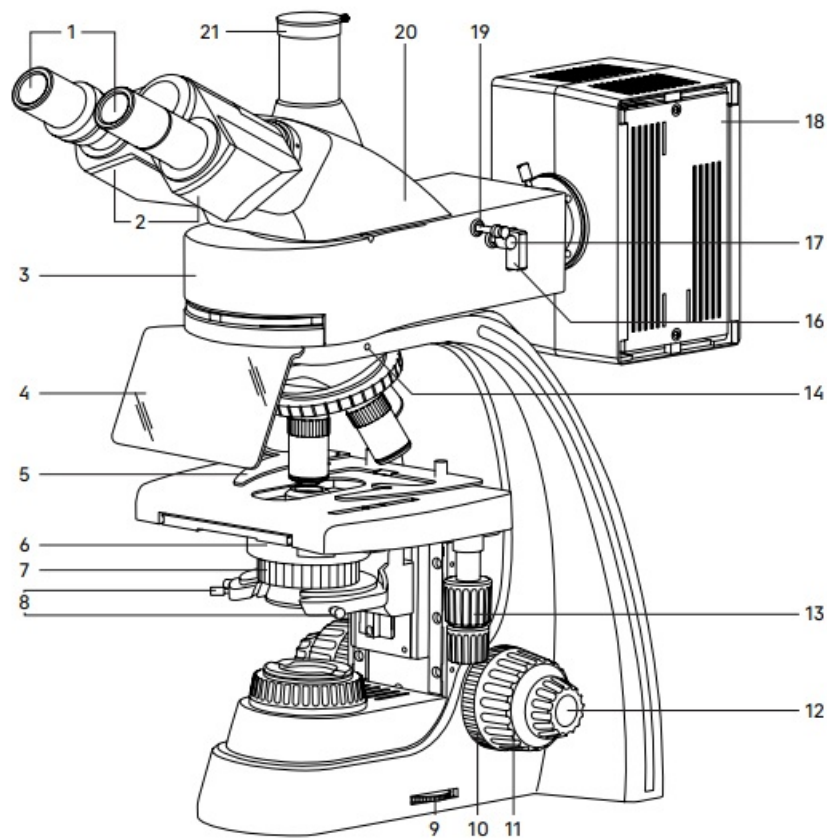
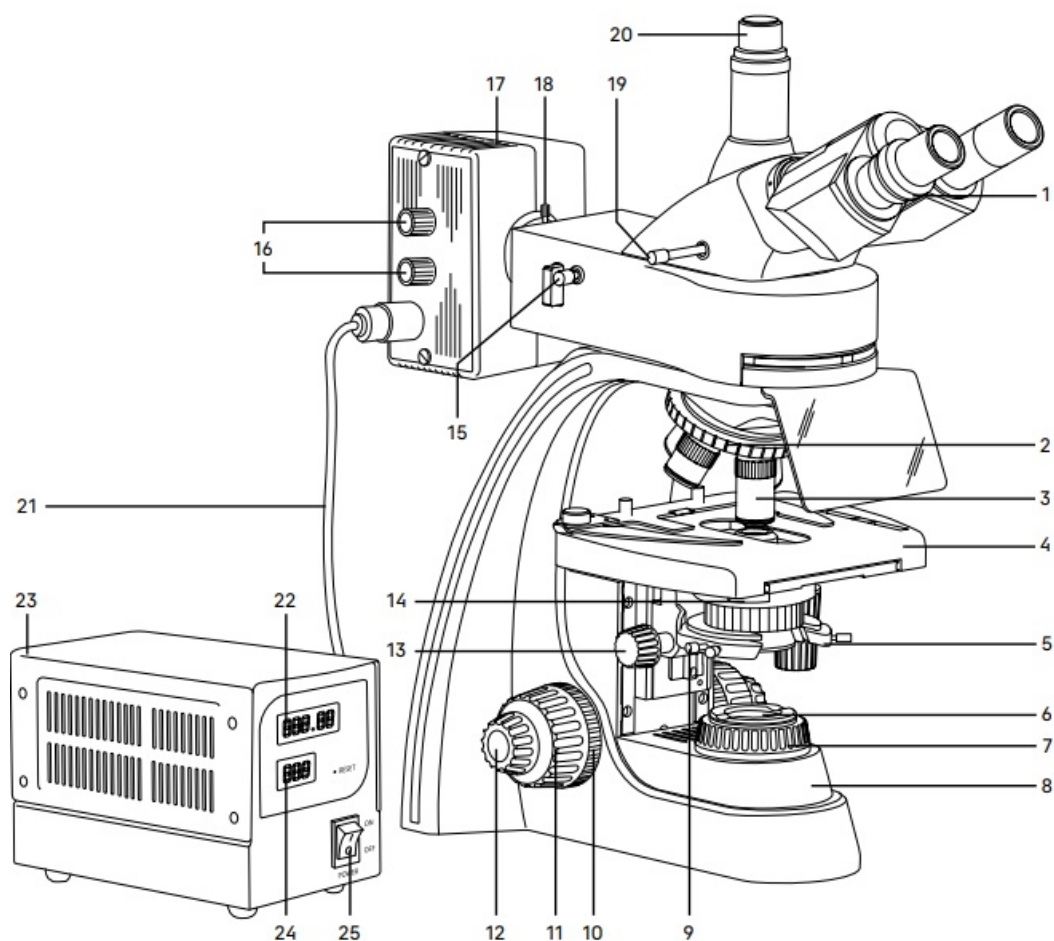

Fig. 1. MAGUS Lum 400 Fluorescence Microscope. View from the right
Fig. 2. MAGUS Lum 400 Fluorescence Microscope. View from the left
- The general view of the microscope is given in Fig. 1 and 2.
The stand 8 (Fig.2) is a one-piece structure with the base. The base has a Y-shaped stable ergonomic design.
- revolving nosepiece 2 (Fig. 2) with objectives 3 (Fig. 2)
- stage 4 (Fig. 2)
- condenser mount 5 (Fig. 2)
- collector with field diaphragm 6 (Fig. 2).
- The ring 9 (Fig. 1) is used to adjust the supply voltage of the transmitted light source.
- Focusing on the specimen is achieved by adjusting the height of the stage 4 (Fig. 2). Coarse focusing is performed by rotating the coaxial knobs 11 (Fig. 1, 2) on both sides of the microscope stand.
- Fine focusing is performed by rotating the knobs 12 (Fig. 1, 2) on both sides of the microscope stand.
- The coarse focusing tension adjustment is performed by the ring 10 (Fig. 1) between the stand and the coarse focusing knob on the right side. The ring adjusts the coarse focusing tension so that the tension is comfortable for the user, but the stage does not lower spontaneously during operation.
- The coarse focusing lock knob 10 (Fig. 2) is located on the left side. Once the coarse focusing is completed, we recommend rotating the knob clockwise as far as it will go.
- The microscope head 20 (Fig. 1) provides the visual observation of the specimen image. It is installed in the mounting hole of the top flange of the epi-fluorescence illuminator 3 (Fig. 1) and secured with the clamping screw 15 (Fig. 1).
- The interpupillary distance is adjusted by rotating the eyepiece tube 2 (Fig. 1) in the range of 48–75mm.
- The eyepiece diopter adjustment is intended to compensate for the observer's ametropia. It is located on the left eyepiece tube – ring 1 (Fig. 2). The second eyepiece tube is fixed.
- A C-mount adapter 20 (Fig. 2) is installed in the trinocular tube 21 (Fig. 1) of the microscope head to fix the camera.
- The camera is used to transmit the image to a computer screen or monitor/TV. You can switch the light path to the trinocular tube using lever 19 (Fig. 2). The lever has two positions: 100/0 and 0/100.
- The microscope kit includes eyepieces 1 (Fig. 1). The eyepieces have high eye relief and are designed to work with or without glasses.
- Revolving nosepiece 2 (Fig. 2) allows for the installation of five objectives 3 (Fig. 2). Objectives are changed by rotating the knurled ring of the revolving nosepiece until the objective fits into place.
- Objectives 3 (Fig. 2) are designed for the infinity-corrected tube length. Parfocal distance – 45mm, linear field of view – 22mm. They are designed to observe the specimen with the 0.17mm coverslip or without a coverslip. The microscope is equipped with 4x, 10x, 40x (fluorescence), and 100x plan achromatic objectives. Optional plan achromatic 20x and 60x objectives and a plan achromatic fluorescent 10x objective are available.
- The condenser 6 (Fig. 1) is installed using the mount 5 (Fig. 2) under the microscope stage. It features a dovetail mount. The condenser is mounted using the guides with the specimen stage raised and the mount lowered.
- You can move the condenser along the optical path of the microscope using the condenser focus knob 13 (Fig. 2) located on the left of the observer under the stage. The condenser focusing range: is at least 33mm.
- The condenser has a slot 14 (Fig. 2) for darkfield and phase-contrast sliders.
- The condenser mount has a spring-loaded holder, which allows for centering the condenser in the optical path using two screws 8 (Fig. 1). The condenser is secured in the holder by the screw 9 (Fig. 2).